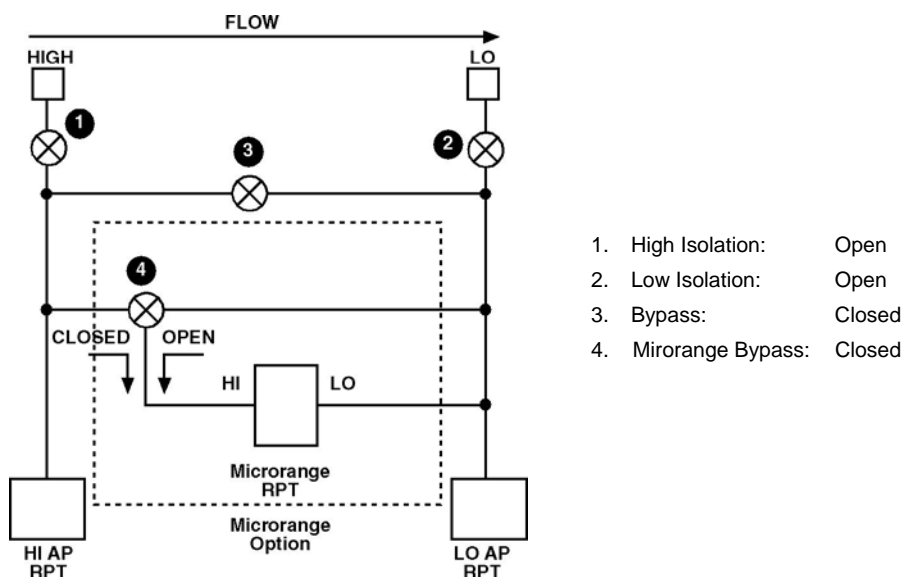

Figure 15. molbox RFM
- ❶ Set the molbox RFM on a stable surface near the calibration standard. Consider the connections that need to be made to the molbox RFM rear panel pressure quick connectors and access to the front panel display and keypad.
- ❷ Connect the calibration standard output to the molbox RFM rear panel UP (HI) port. In the run calibration mode (see Section 5.2.4.1), the microrange differential RPT high side is connected to the UP (HI) port and
the low side is connected to the DOWN (LO) port (see **Figure 15**). Open the DOWN (LO) port to atmosphere by installing the accessory quick connector. If the calibration standard has a “low”, “minus” or “reference” port, consider connecting it to the molbox RFM DOWN (LO) port to assure that the calibration standard and molbox RFM are at the same ambient pressure. Use a quick connector stem (**DHI P/N 101889**, equivalent to Swagelok SS-QM2-S-200) supplied in the molbox RFM accessories to make the connection. The fitting on the quick connector stem that must be mated to is a compression type for 1/8 in. tube.
Selecting <3micro> causes a warning message to appear concerning possible overpressure of the microrange RPT. To view the microrange RPT differential reading, the microrange bypass valve will be operated to connect the microrange RPT to the differential pressure (see **Figure 15**). If the differential pressure is too high, the microrange RPT may be overpressured and damaged (see Section 3.1.6). Be sure the differential pressure between the molbox RFM UP (HI) and DOWN (LO) ports does not exceed 13 kPa (2 psi), then press [ENTER] to proceed.